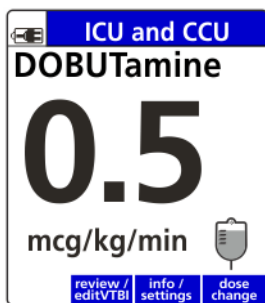

Figure 77. Infusion Running Screen.
1. Press the **dose change** soft key. See Figure 77.